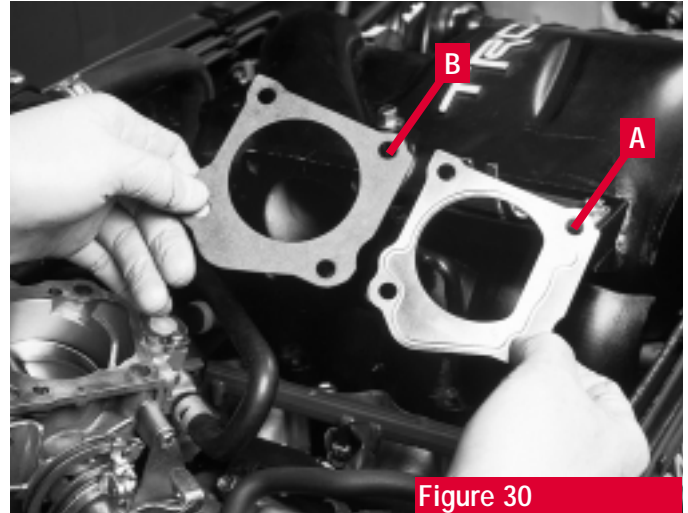

Figure 30
**IMPORTANT:** Do not reuse the OE metal gasket (A, figure 30) on the throttle body. It will reduce boost output by 1½ lbs. Use the gasket supplied with the kit (B). And make sure that it is positioned properly. Its shape must coincide with that of the throttle body. If not, you will create a vacuum leak.